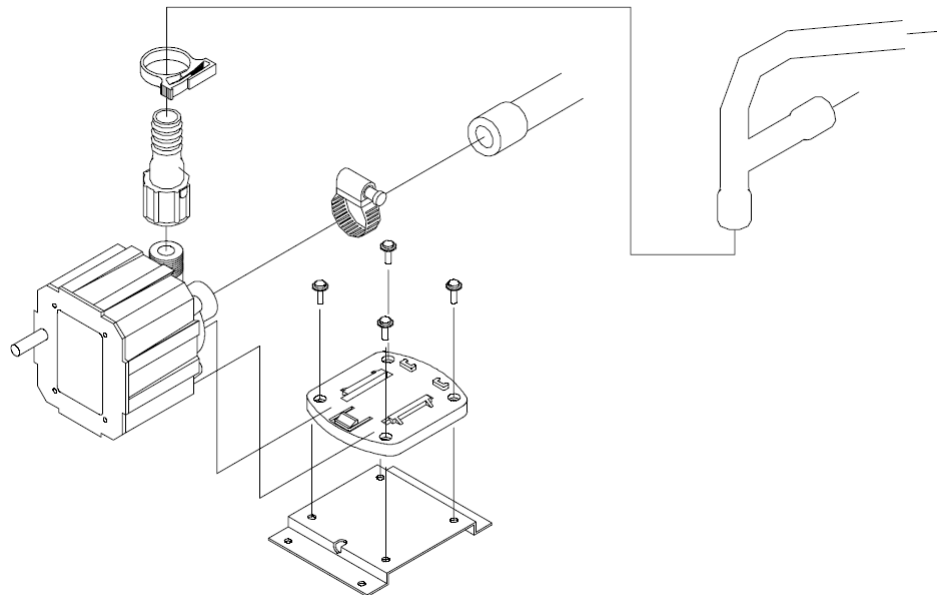

Figure 1. Kit Parts Identification
13. Cut current manifold/dump valve tube by .75 inch or less at both ends. See Figure 1.